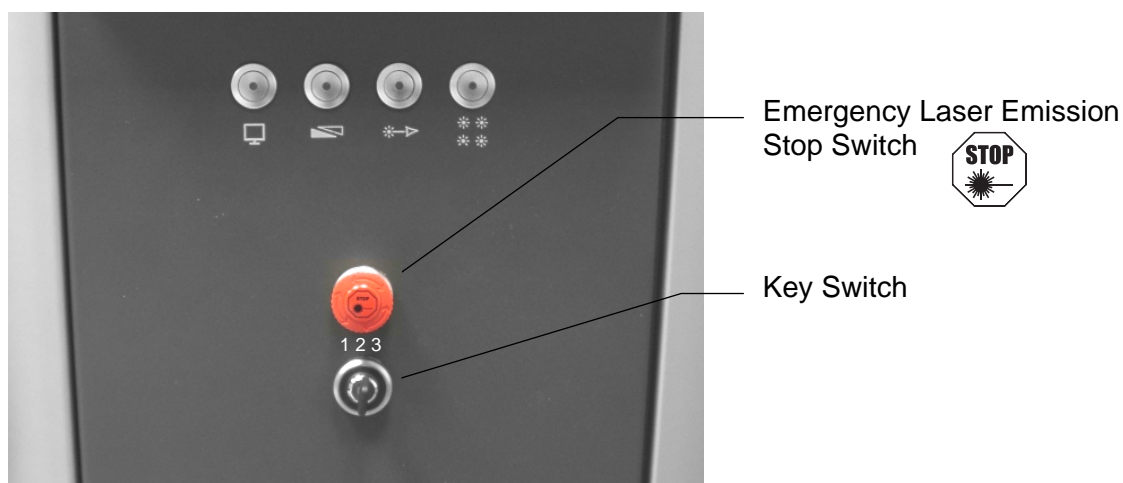

Figure 4: Key Switch And Emergency Laser Emission Stop Switch On The Front Of The Device
- The Emergency Laser Emission Stop Switch is to be released, if it has been activated (see figure 4 “Key Switch And Emergency Laser Emission Stop Switch On The Front Of The Device” on page 26).